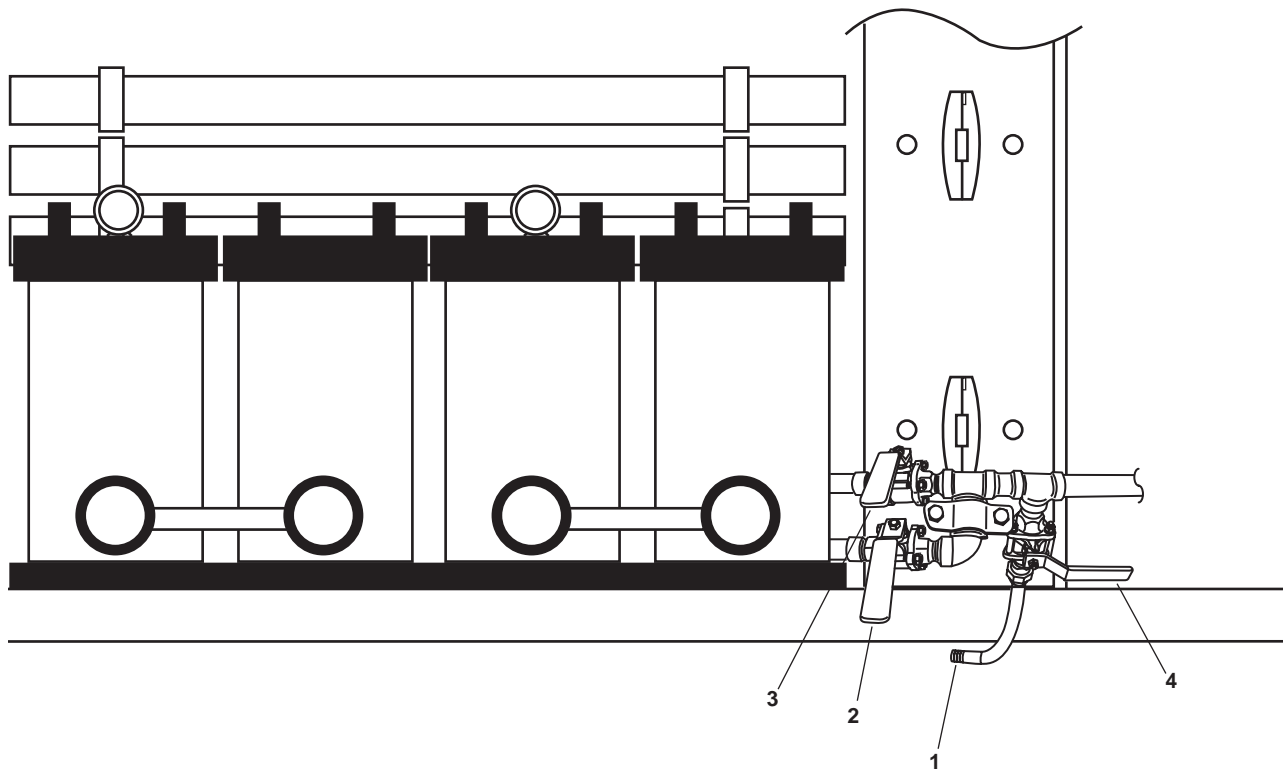

Figure 9. ROWPU Filter Inlet Valves
8. Connect the third 8-foot (2.4 meter) cleaning hose to the cleaning supply inlet (figure 9, item 1).
10. OPEN valves RO-V-1-1 (figure 9, item 2), RO-V-2-1 (figure 9, item 3), and RO-V-5 (figure 9, item 4).
21. CLOSE valves RO-V-1-1 (figure 9, item 2), RO-V-2-1 (figure 9, item 3) and RO-V-5 (figure 9, item 4).